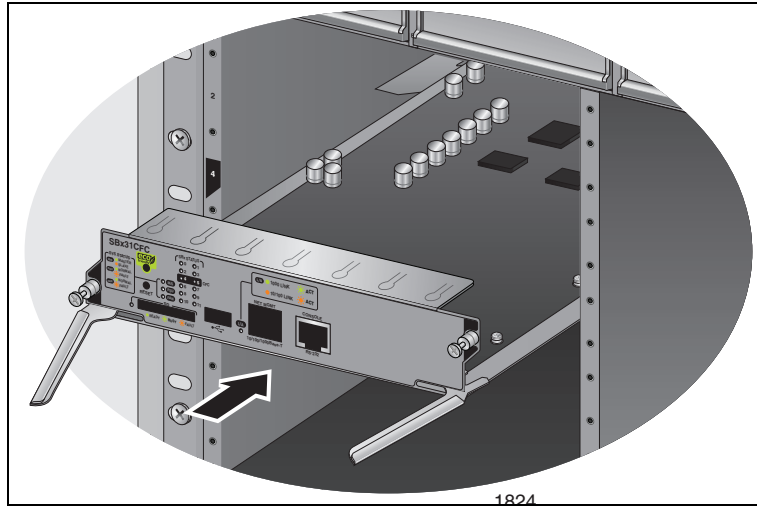

Figure 43. Inserting the AT-SBx31CFC Card in the Chassis Slot
7. Insert the card into the slot until you feel it make contact with the connector on the chassis backplane as displayed in Figure 43.